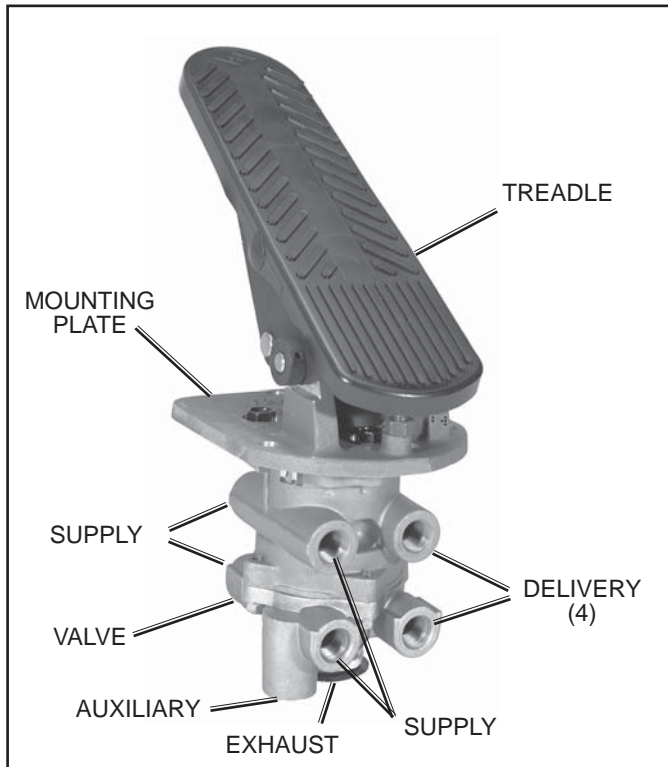
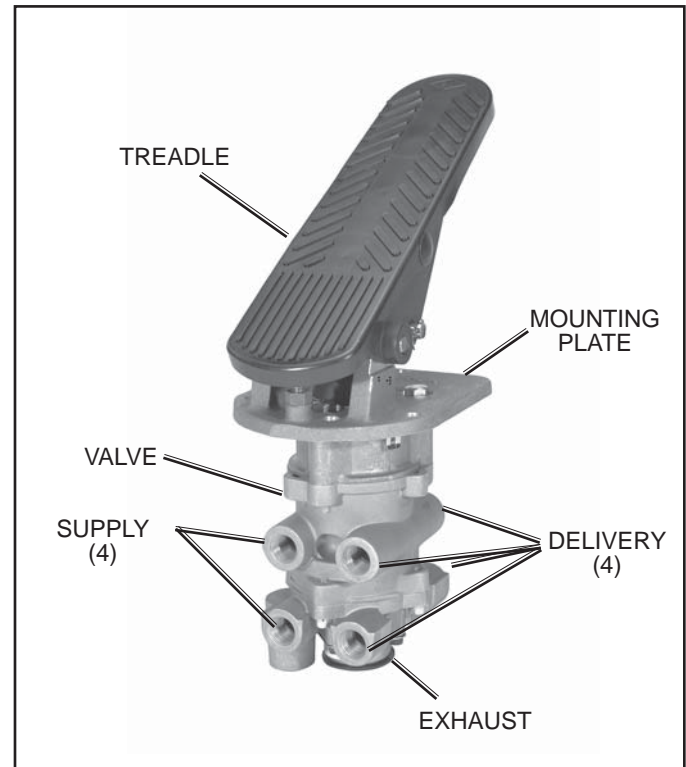

FIGURE 1 - E-8P™ DUAL BRAKE VALVE
FIGURE 2 - E-10P™ DUAL BRAKE VALVE
The Bendix® E-8P™ (Figure 1) and E-10P™ (Figure 2) dual brake valves are floor mounted, treadle operated type brake valves with two separate supply and delivery circuits for service (primary and secondary) braking, which provides the driver with a graduated control for applying and releasing the vehicle brakes.
The E-10P™ dual brake valve (Figure 2) is similar to the E-8P™ dual brake valve except that a metal coil spring (5) housed in an upper body assembly replaces the rubber spring (27) used in the E-8P™ valve. The use of a metal coil spring (and the upper body assembly) provides greater treadle travel and, therefore, provides the driver with a less sensitive "feel" when making a brake application. The E-10P™ dual brake